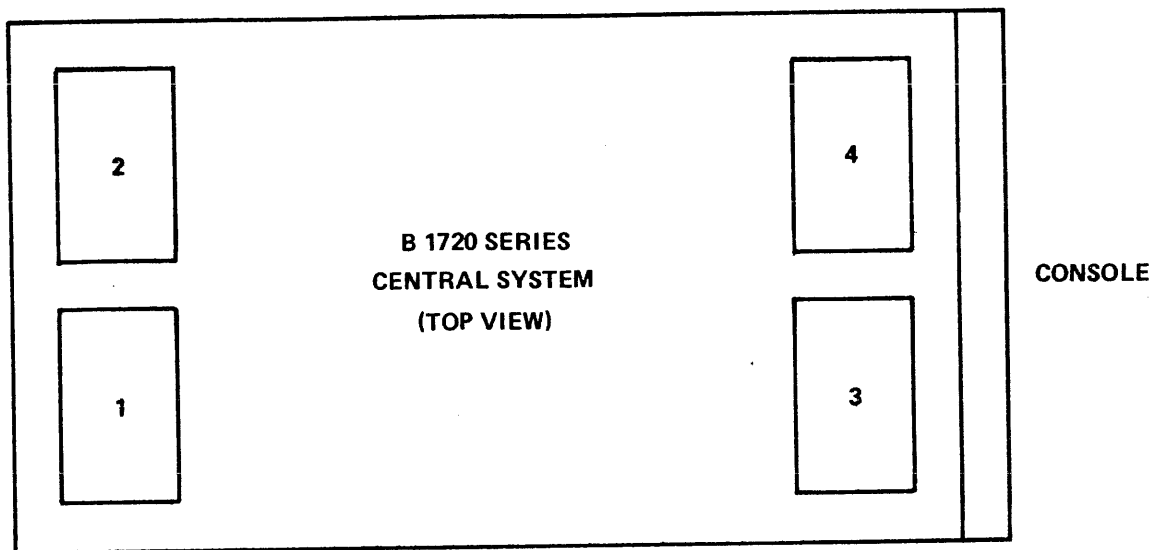

Figure 6-11. Memory Supply Locations in B 1720 Series Systems
- a. Determine the number of memory power supplies presently installed in the system. Additional supplies are to be positioned in accordance with the memory unit number they are associated with. Figure 6-11 shows the proper locations of the four possible memory power supplies.